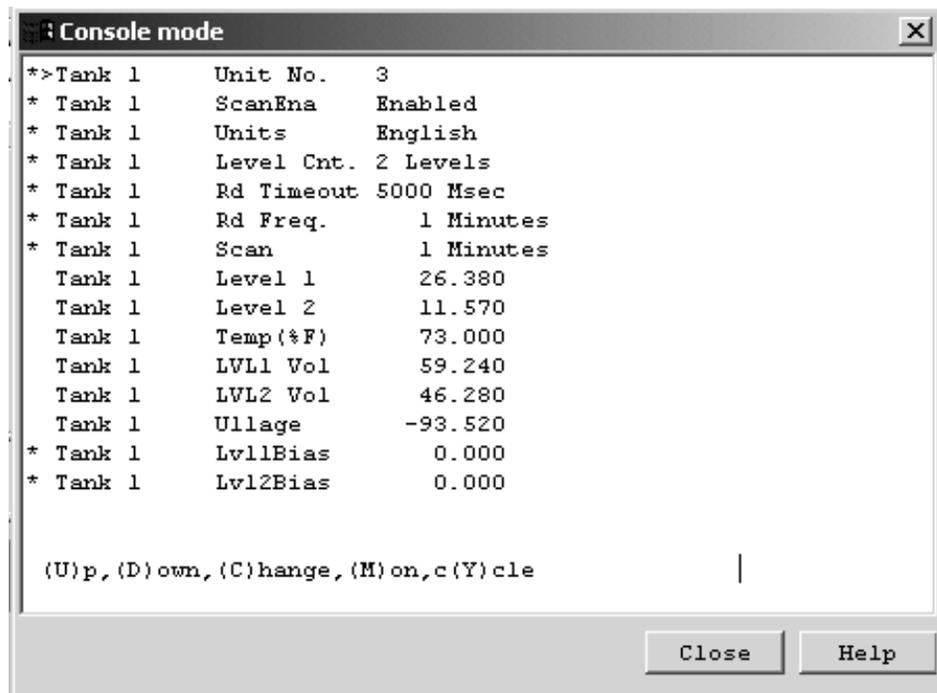

Figure 3–2 Console Mode, Tank 1 Setup
- 7) On Figure 3–2, the labels shown on the user’s particular software version may not necessarily be the same as the example screen shown here.